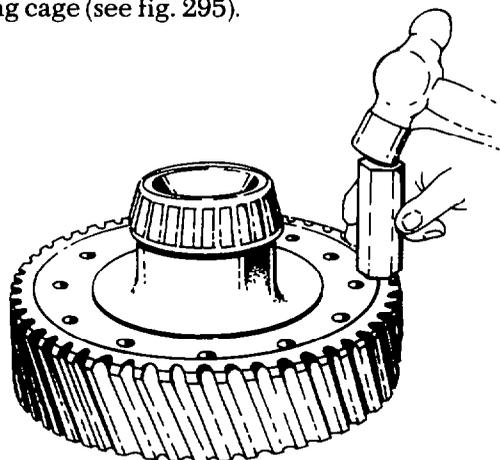

Fig. 295 — Separating Bull Gear and Driving Gear
i. Cut and remove the lockwire from the retaining bolts, then remove the retaining bolts. Using a brass drift and hammer, tap around the circumference of the bull gear until the bull gear separates from the driving cage (see fig. 295).